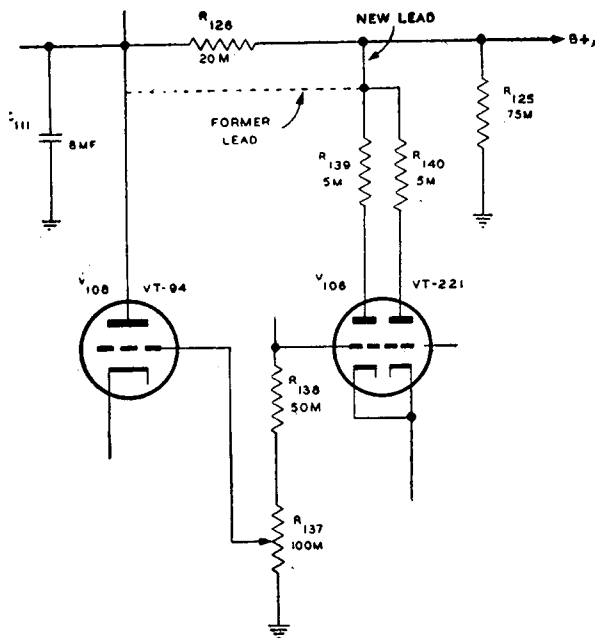

Figure 104. Diagram of change in sidetone oscillator circuit.
a. Beginning with serial number 1151 on Order No. 30203-Phila-43, a change has been made in the c-w sidetone circuit. The change increases the available sidetone signal level and compensates for a possible loss in signal level due to circuit element deterioration. The plate-voltage supply connection for tube  $V_{106}$  has been changed from the junction of resistors  $R_{126}$  and  $R_{127}$  to the junction of resistors  $R_{125}$  and  $R_{126}$ . (See fig. 104.) This change increases the plate-voltage to the sidetone oscillator tube  $V_{106}$ . The increased plate voltage results in an increase in output of the sidetone oscillator tube  $V_{106}$ . Resistor  $R_{138}$  has been changed from 100,000 ohms to 50,000 ohms. This change increases the level of the sidetone signal available at the sidetone volume control  $R_{137}$  slightly more than 2 db (decibels). The plate-supply lead for sidetone